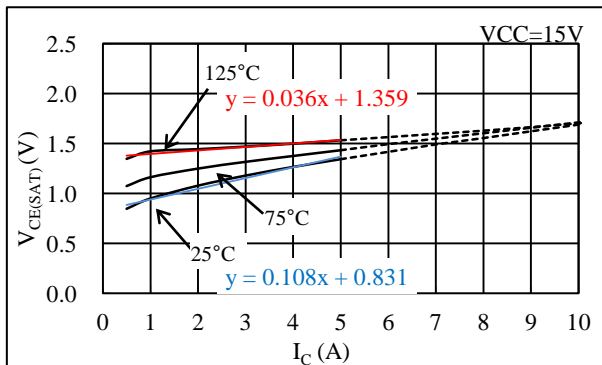

Figure 14-1. Linear approximate equation of  $V_{CE(SAT)}$  vs.  $I_C$  curve
The steady-state loss in an IGBT can be computed by using the  $V_{CE(SAT)}$  vs.  $I_C$  curves, shown in Section 15.3.1. As shown in Figure 14-1, the following linear approximate equation can be obtained from the curves:  $V_{CE(SAT)} = \alpha \times I_C + \beta$ . The slope and intercept of the linear approximate equation are used in Formula (4).